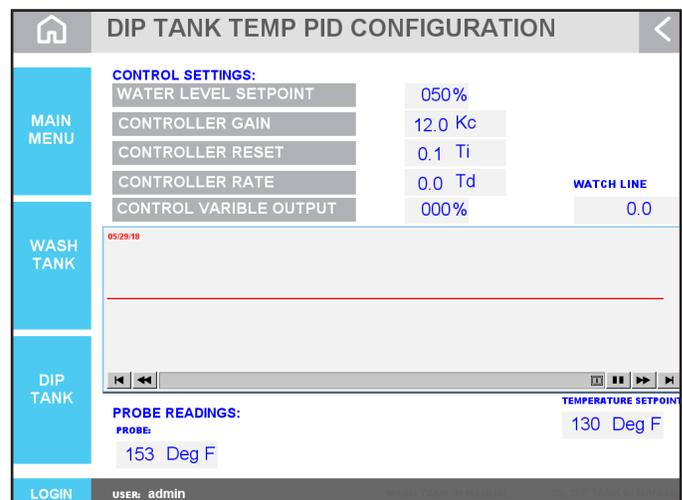

Figure 7.3: Dip Tank Temp PID Configuration screen
3. From this screen the **WATER LEVEL SET POINT** can be identified [Figure 7.3].